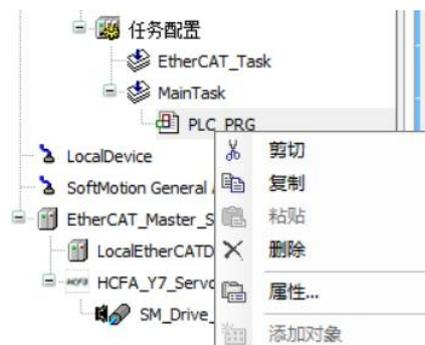

Figure 13-14 Delete POU of the Main Task
8. In the menu bar, right-click [PLC\_PRG] in MainTask, and select [Delete], as shown in Figure 13-14.